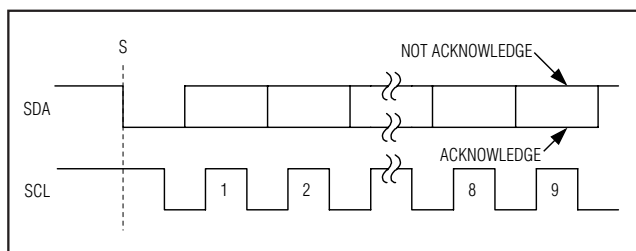

Figure 6. Acknowledge Bits
Data transfers are acknowledged with an acknowledge bit (A) or a not-acknowledge bit (NA). Both the master and the MAX1136-MAX1139 (slave) generate acknowledge bits. To generate an acknowledge, the receiving device must pull SDA low before the rising edge of the acknowledge-related clock pulse (ninth pulse) and keep it low during the high period of the clock pulse (Figure 6). To generate a not-acknowledge, the receiver allows SDA to be pulled high before the rising edge of the acknowledge-related clock pulse and leaves SDA high during the high period of the clock pulse. Monitoring the acknowledge bits allows for detection of unsuccessful data transfers. An unsuccessful data transfer happens if a receiving device is busy or if a system fault has occurred. In the event of an unsuccessful data transfer the bus master should reattempt communication at a later time.